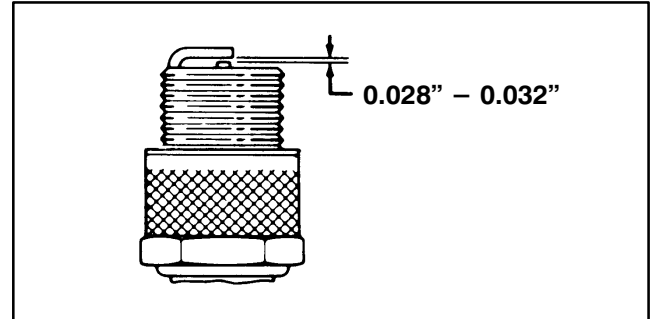

Figure 31
3. Set air gap at 0.028" – 0.032" (Fig. 31). Install correctly gapped spark plug and tighten firmly to 17 ft–lb.